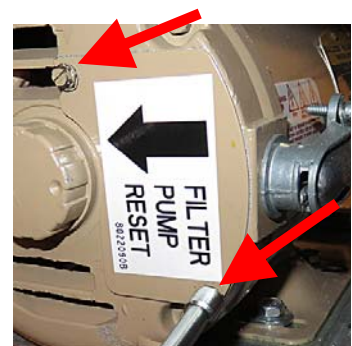

Figure 13
15. Remove the two (2) screws attaching the electrical cover plate to the filter pump motor (see Figure 13).